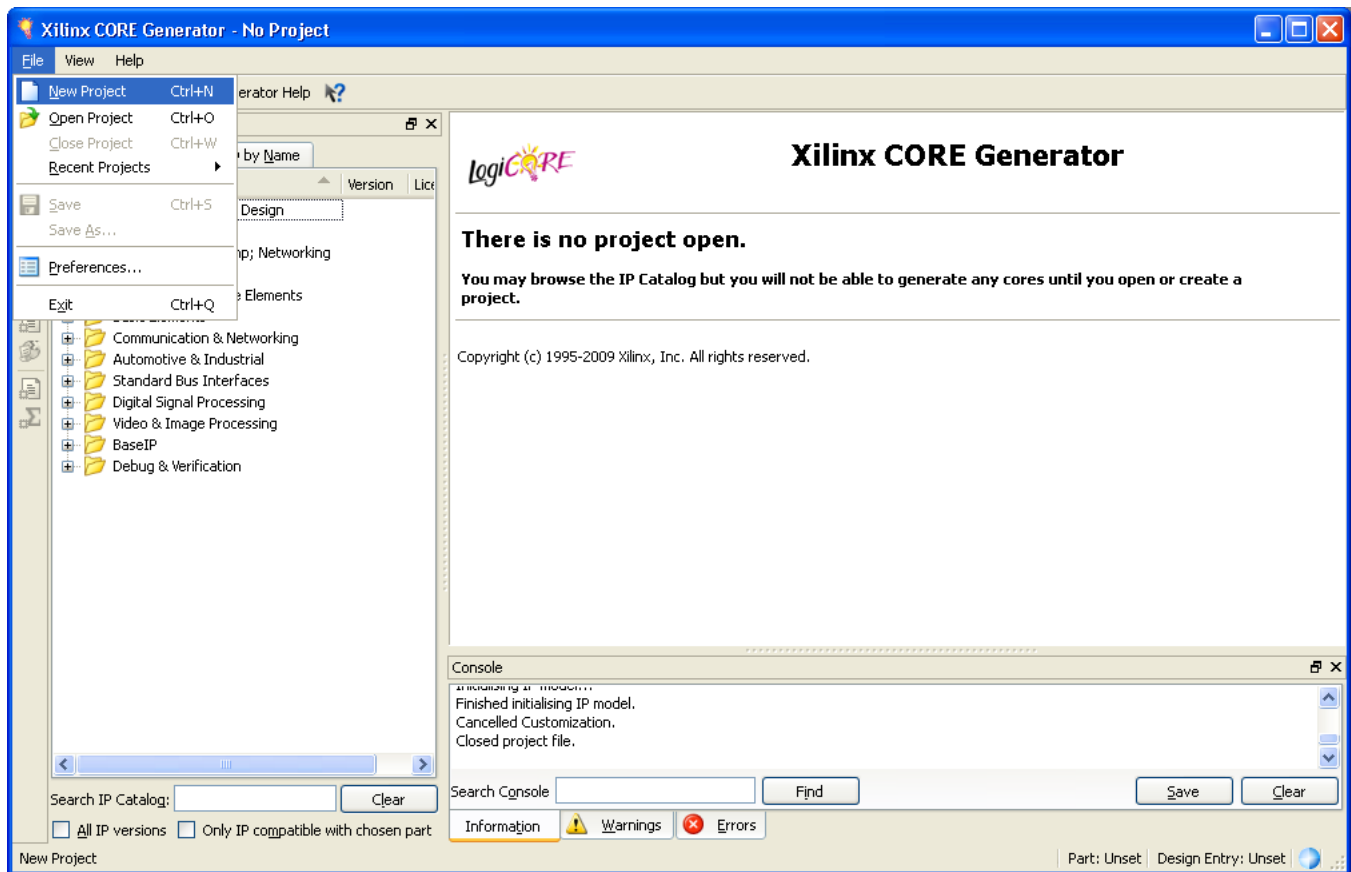

Figure 3-1: Starting a New Project
3. Choose **File > New Project** (Figure 3-1, page 20).